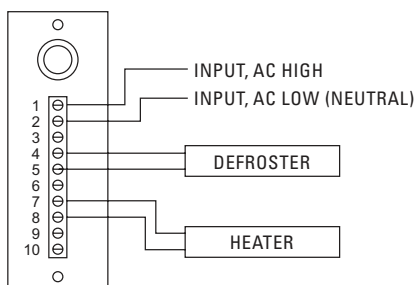

Figure 4. EH3508-1/-2/-3 Wiring Diagram
9. If the enclosure has accessories that require power, you will need to access the PC board. To remove the cover, insert a screwdriver into the slot on top of the cover and lift the cover off. Connect the power for the accessories to pins 1 and 2 on the PC board (refer to Figures 4, 5, and 6 for information about accessory wiring). If required, connect ground to the stud on the bottom of the enclosure just in front of the PC board. Replace the PC board cover, making sure it snaps securely back into place.